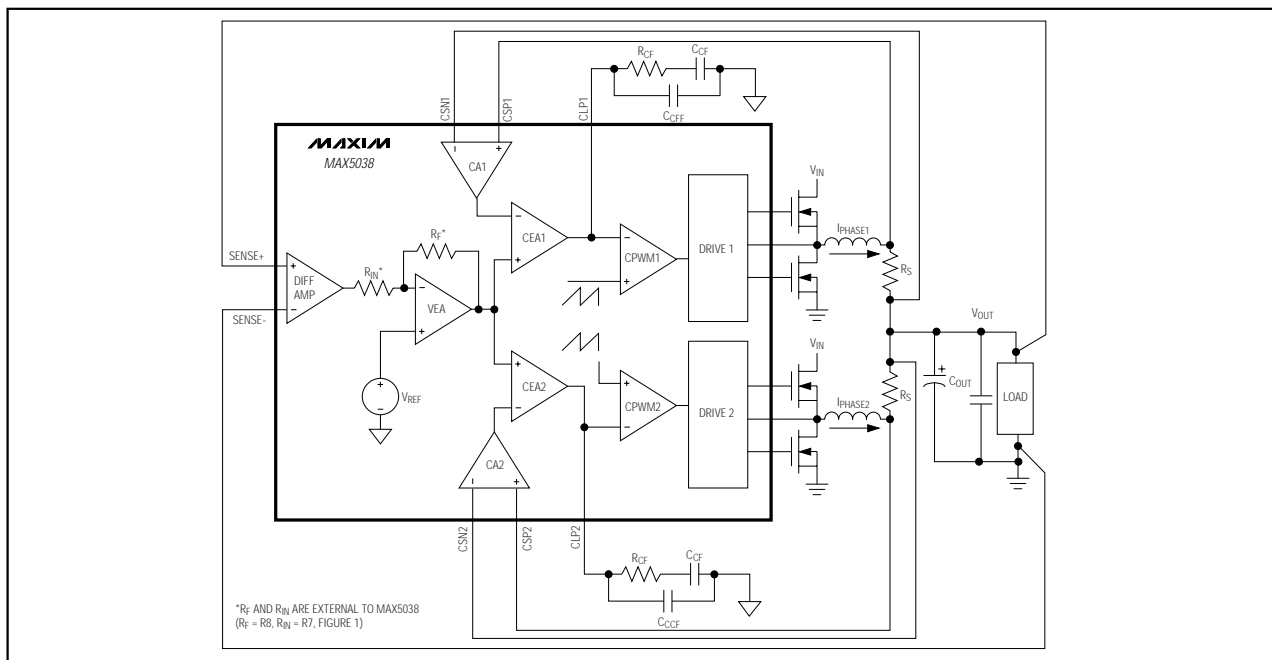

Figure 3a. MAX5038 Control Loop
The MAX5038/MAX5041 use an average current-mode control scheme to regulate the output voltage (Figures 3a and 3b). The main control loop consists of an inner current loop and an outer voltage loop. The inner loop controls the output currents (I_{PHASE1} and I_{PHASE2}) while the outer loop controls the output voltage. The inner current loop absorbs the inductor pole reducing the order of the outer voltage loop to that of a single-pole system.
The outer voltage control loop consists of the differential amplifier (DIFF AMP), reference voltage, and VEA. The unity-gain differential amplifier provides true differential remote sensing of the output voltage. The differential amplifier output connects to the inverting input (EAN) of the VEA. The noninverting input of the VEA is internally connected to an internal precision reference voltage. The MAX5041 reference voltage is set to +1.0V and the MAX5038 reference is set to the preset output voltage. The VEA controls the two inner current loops (Figures 3a and 3b). Use a resistive feedback network to set the VEA gain as required by the adaptive voltage-positioning circuit (see the *Adaptive Voltage Positioning* section).
Each phase of the MAX5038/MAX5041 has a dedicated transconductance current-error amplifier (CEA_) with a typical g_m of 550 μ S and 320 μ A output sink and source current capability. The current-error amplifier outputs, CLP1 and CLP2, serve as the inverting input to the PWM comparator. CLP1 and CLP2 are externally accessible to provide frequency compensation for the inner current loops (Figures 3a and 3b). Compensate CEA_ such that the inductor current down slope, which becomes the up slope to the inverting input of the PWM comparator, is less than the slope of the internally generated voltage ramp (see the *Compensation* section).
The differential amplifier (DIFF AMP) facilitates output voltage remote sensing at the load (Figures 3a and 3b). It provides true differential output voltage sensing while rejecting the common-mode voltage errors due to high-current ground paths. Sensing the output voltage directly at the load provides accurate load voltage sensing in high-current environments. The VEA provides the difference between the differential amplifier output (DIFF) and the desired output voltage. The differential amplifier has a bandwidth of 3MHz. The difference between SENSE+ and SENSE- regulates to the preset output voltage for the MAX5038 and regulates to +1V for the MAX5041.
The VEA output clamps to +0.9V (plus the common-mode voltage of +0.6V), thus limiting the average maximum current from individual phases. The maximum average current-limit threshold for each phase is equal to the maximum clamp voltage of the VEA divided by the gain (18) of the current-sense amplifier. This allows for accurate settings for the average maximum current for each phase. Set the VEA gain using R_F and R_{IN} for the amount of output voltage positioning required as discussed in the *Adaptive Voltage Positioning* section (Figures 3a and 3b).
Average current-mode control has the ability to limit the average current sourced by the converter during a fault condition. When a fault condition occurs, the VEA output clamps to +0.9V with respect to the common-mode voltage ($V_{CM} = +0.6V$) and is compared with the output of the current-sense amplifiers (CA1 and CA2) (see Figures 3a and 3b). The current-sense amplifier's gain of 18 limits the maximum current in the inductor or sense resistor to $I_{LIMIT} = 50mV/R_S$.